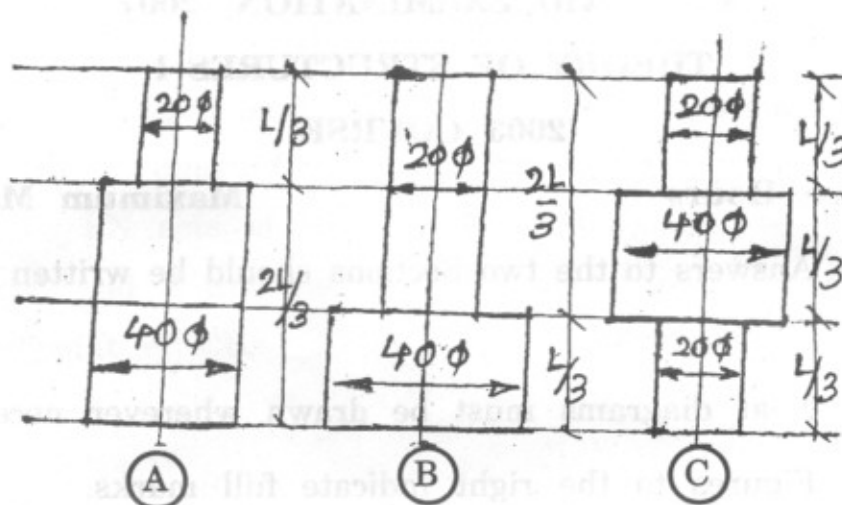

Fig. 2
- (B) Determine the strain energies of the three bars shown in Fig. 2, having same length, same material and same axial force. [6]